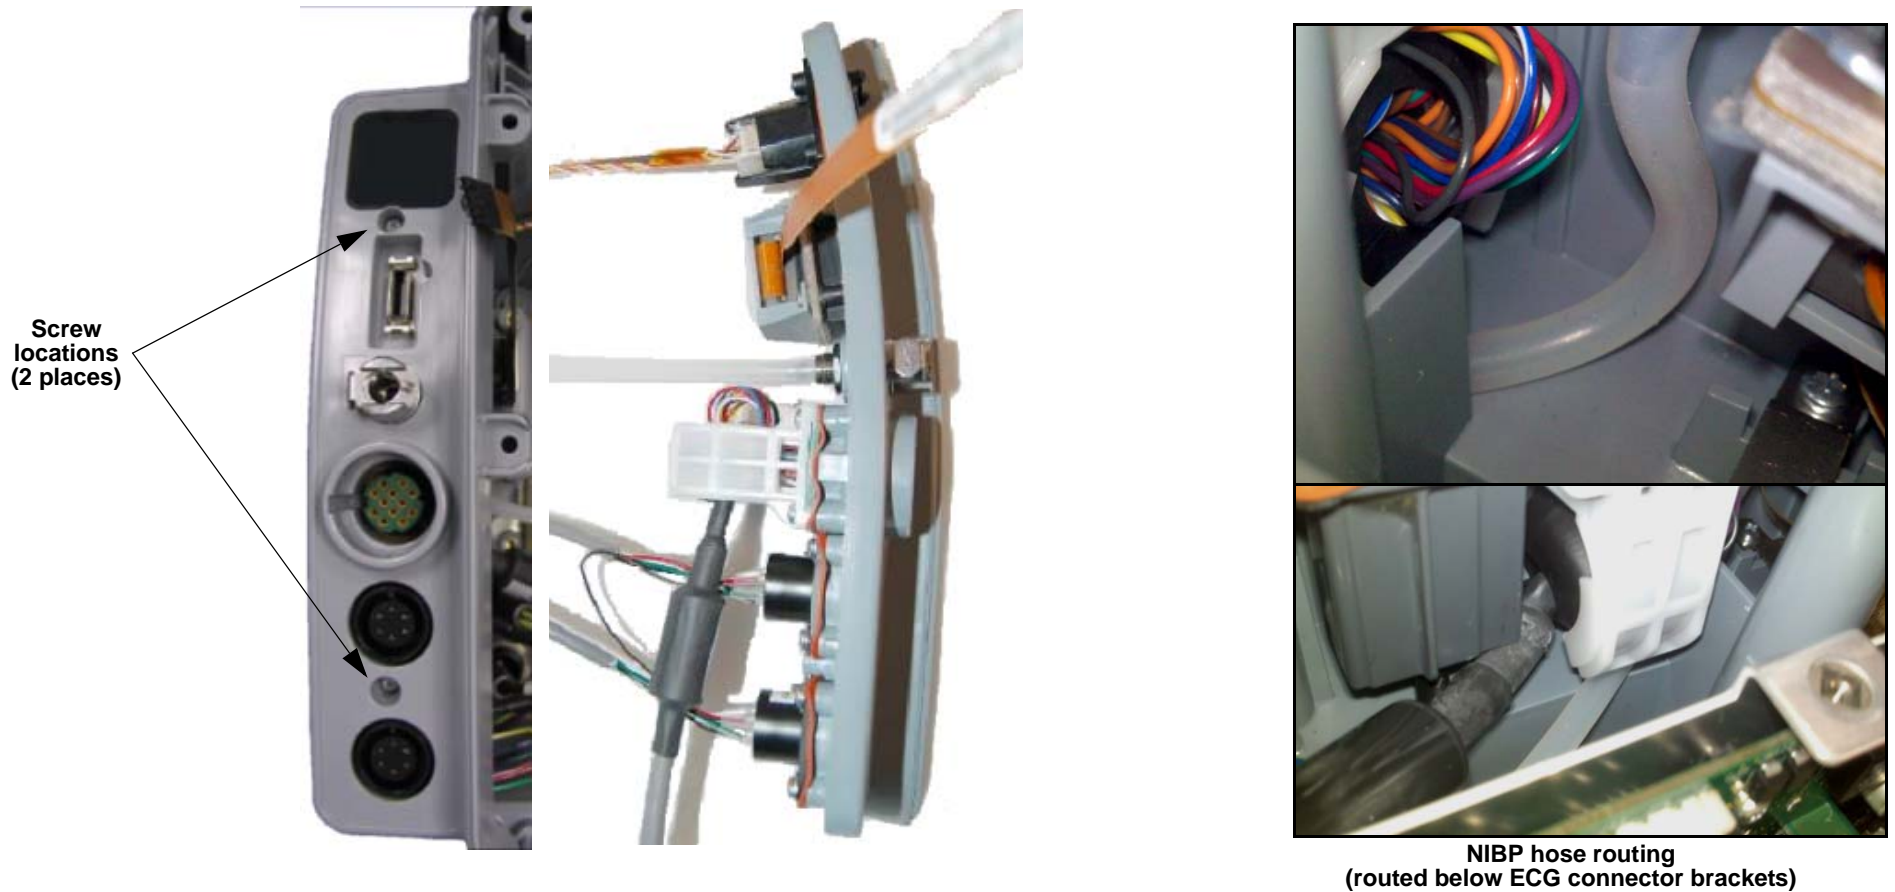

Figure 8.88—Parameter bezel component orientations
**NOTE: Ensure the NIBP hose isn't pinched by the ECG Brackets or rear case standoff. NIBP hose movement should be unrestricted in bezel cavity** (see Figure 8.88 on p. 296).